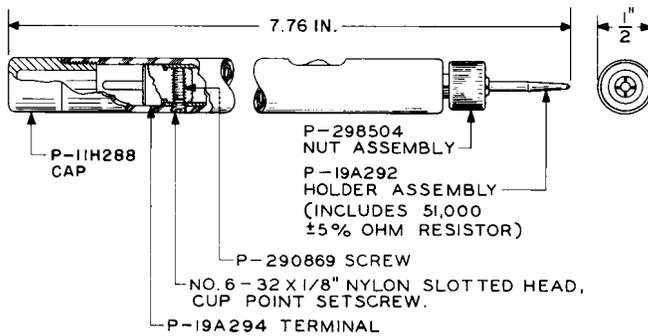

Fig. 9—518C Adjustable Test Pick Tool
2.09 518C: The 518C adjustable test pick tool (Fig. 9) is used with the 67C test set. This tool consists of an insulated handle containing a 51,000 ± 5 percent ohm resistor, switch, and chuck, and connects with a 360-type tool.